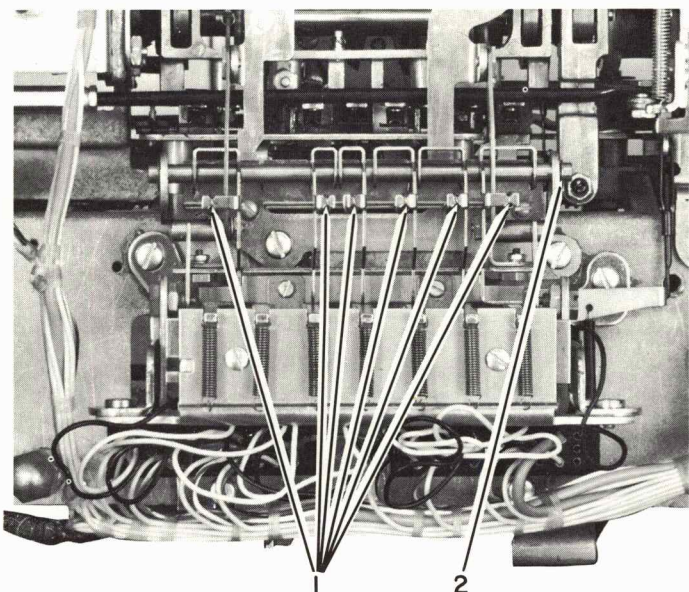

FIGURE 36. Latch Pusher Removal
2. Disconnect the pusher springs (#1, Figure 36).
3. Remove the C-clip on the end of the shaft (#2, Figure 36) and remove the shaft until the desired pusher is free.